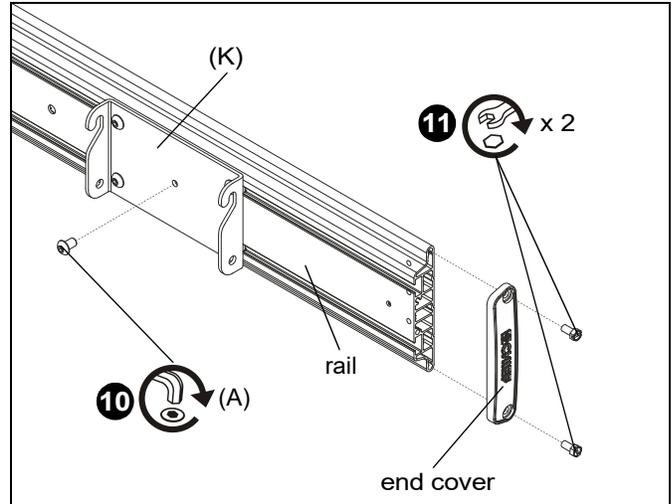

Figure 7
- Install 5/16-18 x 1/2" button head cap screw (A) to secure quick connect bracket (K) to rail. (See Figure 7)
- Replace end cover removed in Step 8 using two removed screws. (See Figure 7)